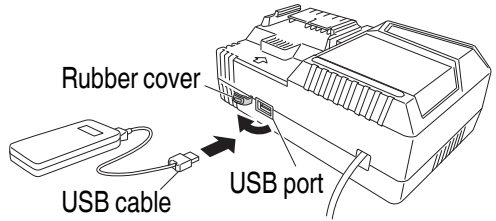

Fig. 31
- (2) Connect the USB cable. (**Fig. 31**)